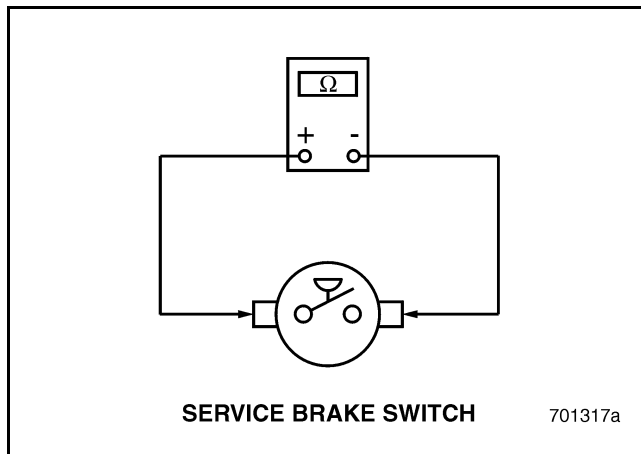

Figure 687
4. Check for continuity across the two terminals of the service brake switch (see Figure 687). If continuity exists, go to test “Test 44 — Checking for a Short to Ground” on page 542. If there is NO continuity, replace the switch and retest the system.